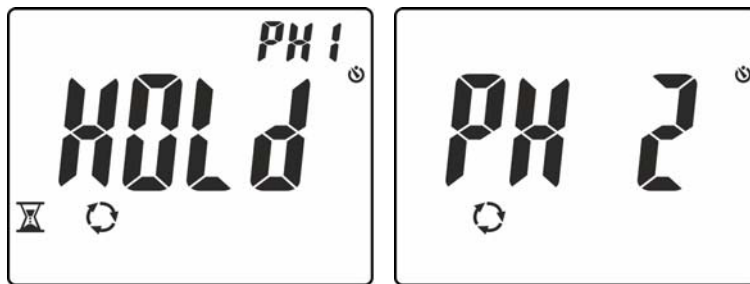

Fig. 14: Detecting phase L1 and waiting for phase L2
4. In conditions of correct voltage and frequency, the instrument shows message “**HOLD**”, symbols ⏰ and “PH1” and the buzzer sounds continuously, waiting for a stable voltage value on phase L1 to be detected (see Fig. 14 – left side).
5. **Do not remove the lead from phase L1** until message “**PH 2**” appears flashing on the display (see Fig. 14 – right side)